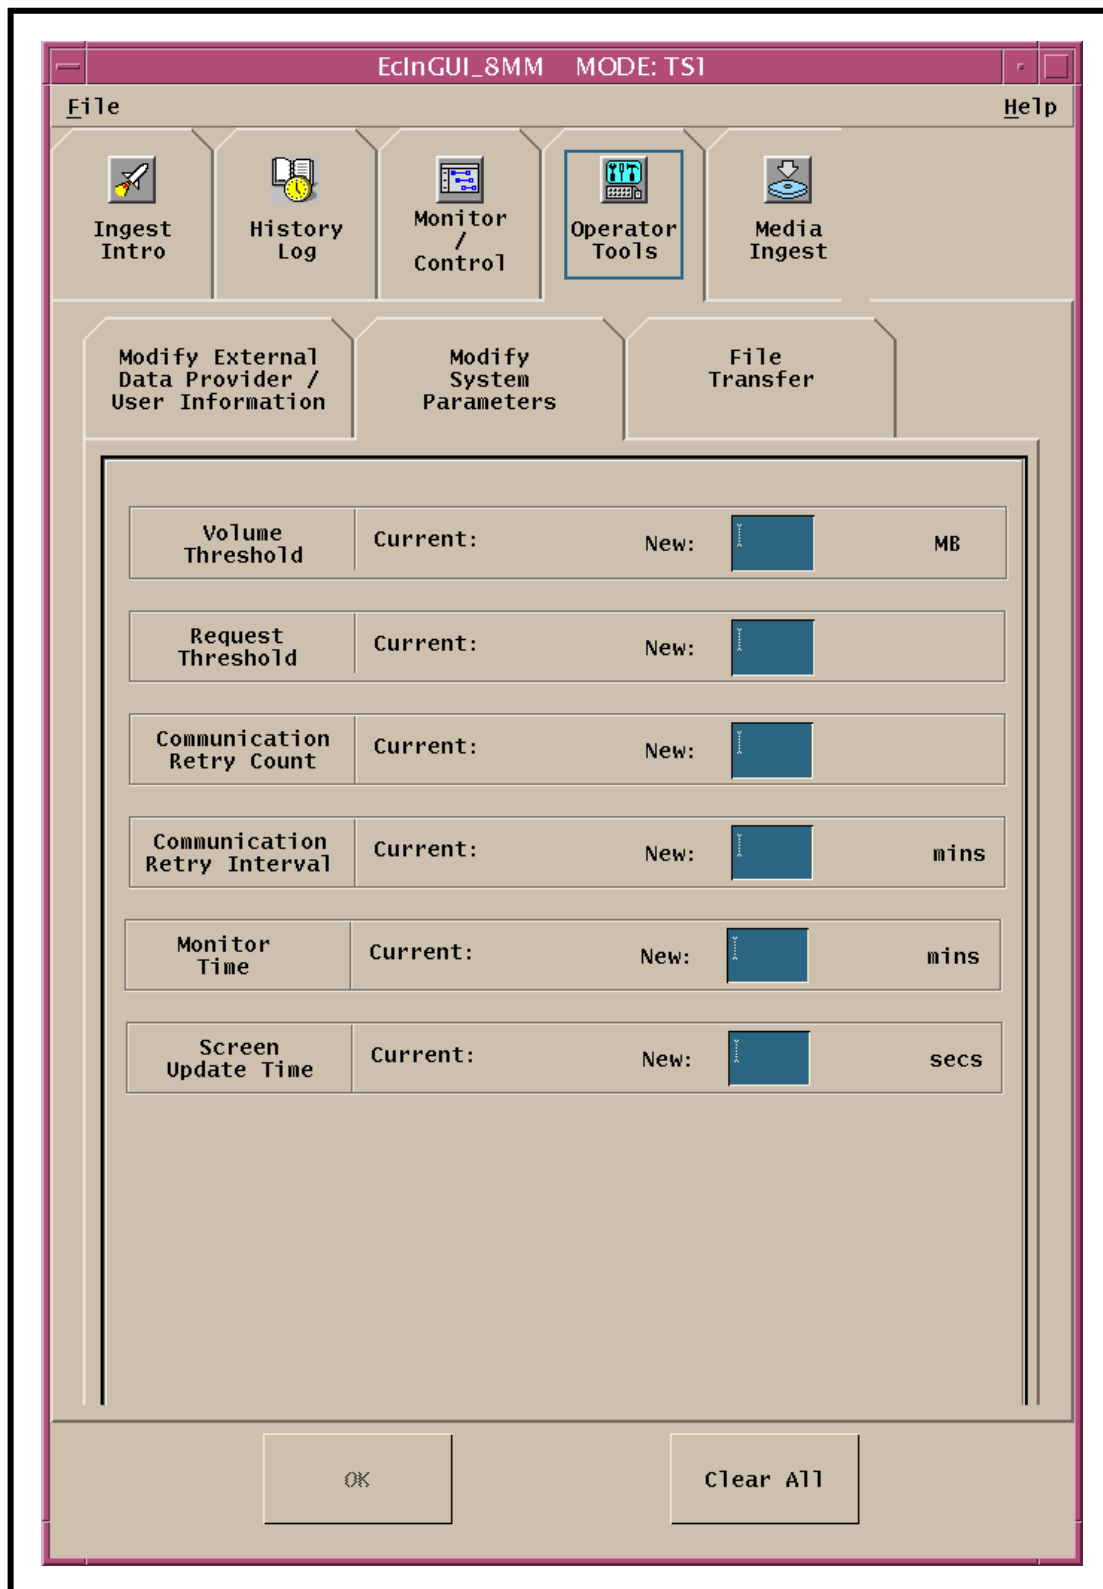

Figure 33. ECS Ingest GUI Operator Tools Tab
There are three GUI screens on the **ECS Ingest GUI Operator Tools** tab (Figure 33). Two of the tabs are used for viewing and/or setting ingest parameters or thresholds:
- The **Operator Tools** screen (Figure 33) is displayed.